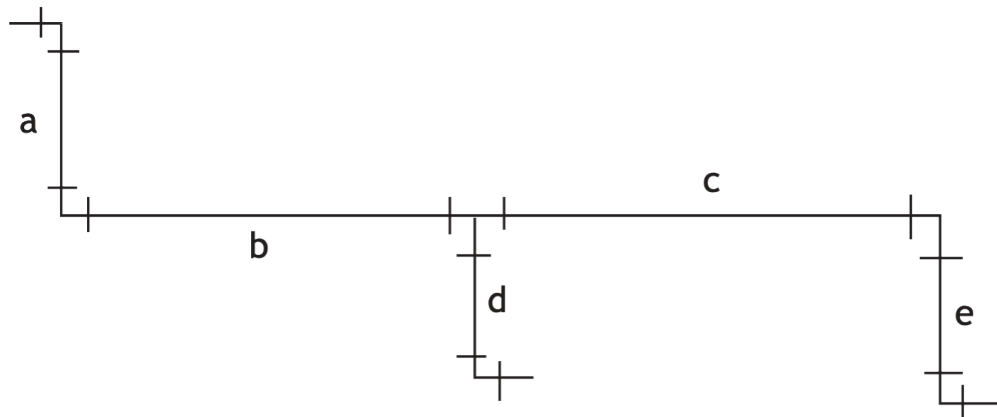

Figure 4 Illustration for Question 6
6. Find the millimetre lengths of the sections of pipe, centre-to-centre, in each of the four scales in Figure 4, using a metric rule. ****measurements may vary from answer key with different printed versions****